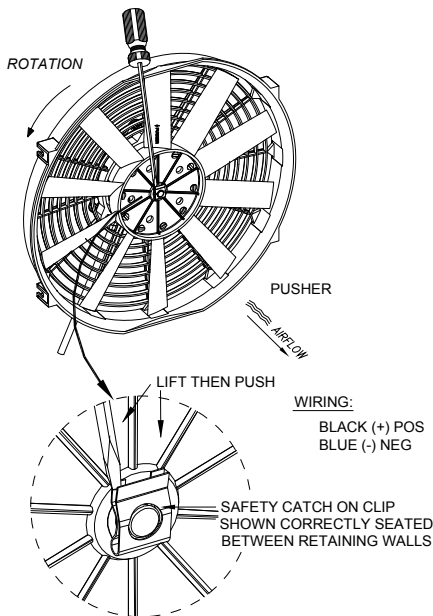

FIGURE 3
1. Disconnect power to the fan. Remove clip as shown. Pusher rotation is counter clockwise as shown in **FIGURE 3**.